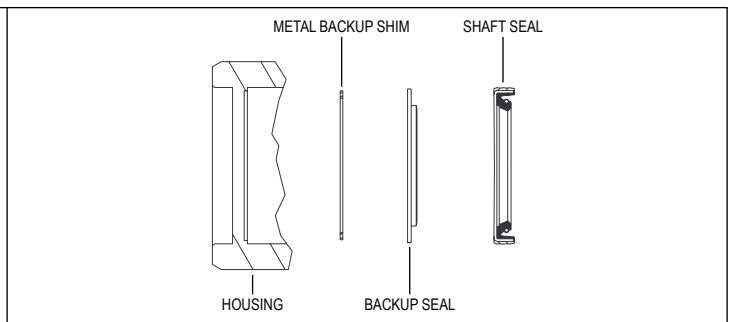
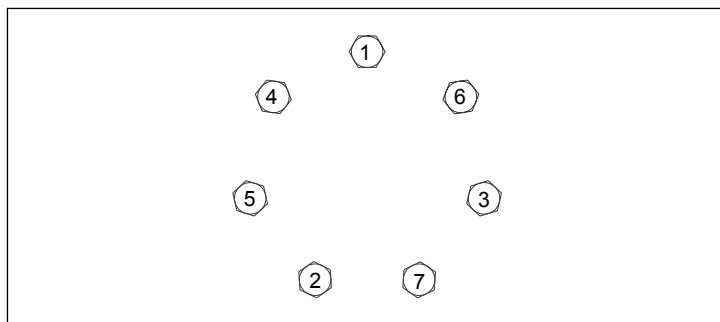

FIGURE 2
FIGURE 3
- J) Place housing (16) in vice with the seven bolt assembly holes facing up. Place metal shim (5) in the smallest diameter recess in the housing (16). Install the backup seal (6) into the housing (16) with the flat side down and the seal lip facing up. Insert shaft seal (7) down into housing (16) making sure that lip on seal faces up (See Figure 2 for correct seal orientation). Install thrust washer (14) into housing and using an arbor press, seat the shaft seal (7) into housing (16), then place the thrust bearing (15) into housing.
- K) Place the rear housing bearing (17) onto the rear housing bore and press to a depth of 3,6 [14] from the rear surface of the housing (16) to the top of the bearing (17). Place the shaft (27) down into housing (16) and place thrust bearing (15) on top of shaft (27). If shaft seals are properly seated against the housing (16), thrust bearing (15) will be flush with rear surface of housing.
- L) Install housing seal (8) into groove in housing (16). Place manifold (20) onto housing (16) with side with only seven holes facing housing (16). Place body seals (9) in grooves in both sides of rotor (21). Place rotor (21) onto manifold (20) with side of rotor with chamfer in splines facing manifold (20).
- M) Install balance plate (22) onto rotor (21) making sure holes for steel balls (23) faces up. Install three steel balls (23) in holes in balance plate (22). Install endcover seal (10) into groove in endcover (24) and place endcover onto balance plate (22). Install seven assembly bolts (26) and pre-torque to 10 ft. lbs. Using the bolt torque sequence shown in Figure 3, final torque all bolts to 67,8 Nm [50 ft. lbs.]
- N) Remove motor from vise and place on work surface with shaft (27) facing up. Place 72mm bearing (12)(Making sure that side of bearing with internal retaining ring faces down) over the shaft (27). Using a sleeve and hammer, carefully drive bearing into housing making sure the top of the bearing falls below the groove in the housing for retaining ring installation. **(Caution: Driving the bearing down with excessive force may cause seal carrier to interfere with bearing performance. This could lead to product overheating and may shorten the life of bearing and motor. Bearing only need be tapped into place.)** Install the retaining ring (11) in the groove in the housing, making sure that the ring snaps into place. Place dust seal (1) over shaft (27) making sure side with lip faces up. Using a sleeve and hammer, carefully drive dust seal into place.